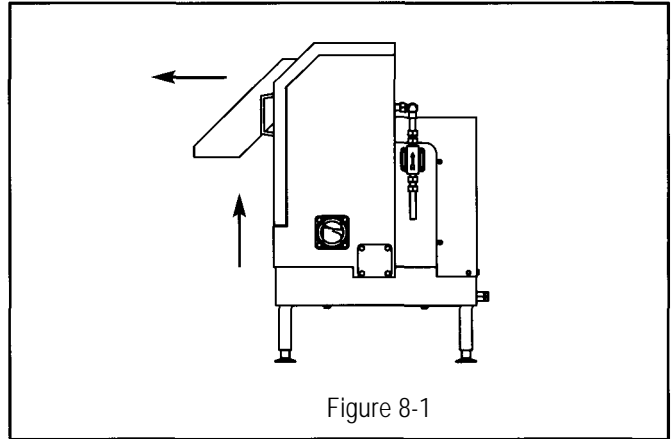

Figure 8-1
2. Holding both handles, remove discharge chute by tilting it upward (see figure 8-1).